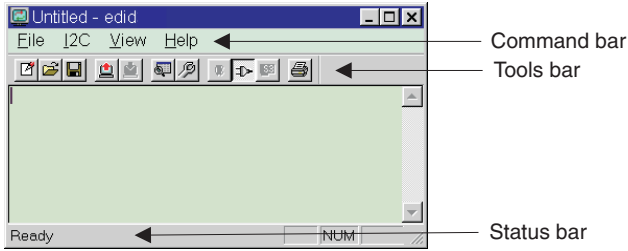

Fig. 6
5. Click button. The main menu appears (as shown on Fig. 6).